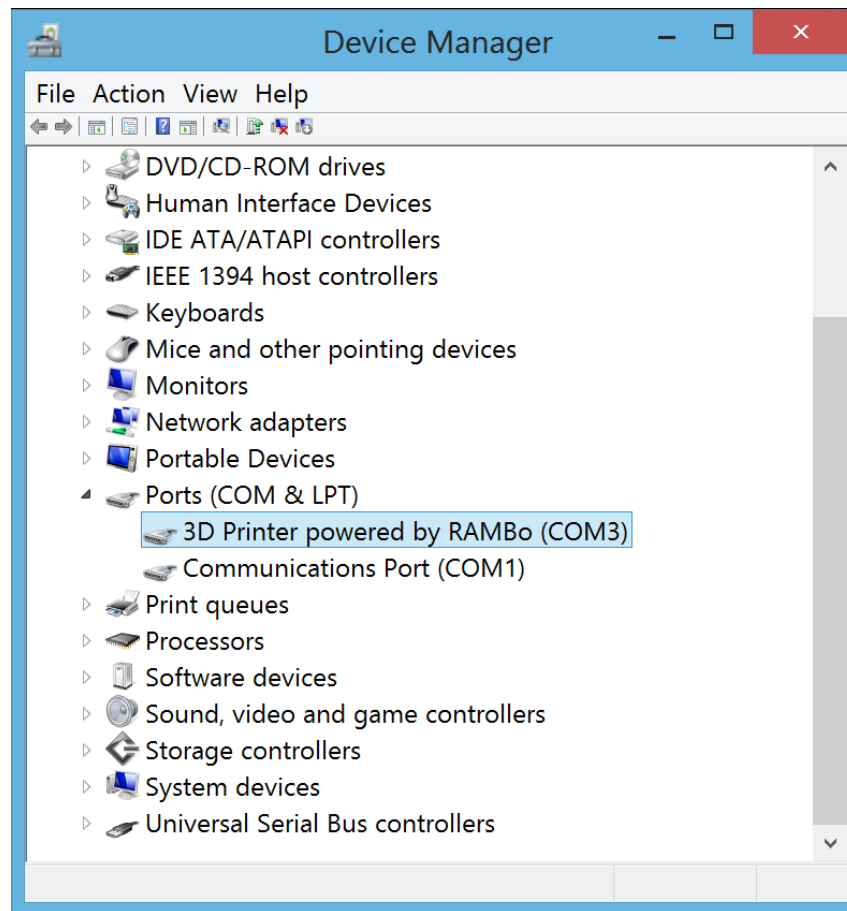

Figure 2.7: COM port used by the electronics board
9. Now, the RAMBo electronics will appear under the "Ports (COM & LPT)". Write down the COM port which the electronics uses. We will need this information later when setting up the printing software. In our case, it is COM3. (Figure 2.7)